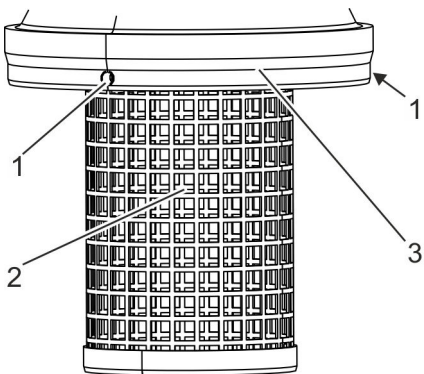

Fig. 28: Fastening the screen cylinder
6. ➤ Fasten the screen cylinder (Fig. 28/2) to the cover (Fig. 28/3) using the threaded pins (Fig. 28/1).